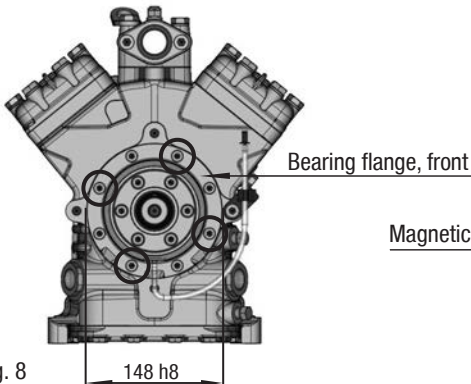

Fig. 8
- To absorb the magnetic field of the electromagnetic clutch, the front bearing flange has a snug fit $\varnothing 148 \text{ h8}$ (see Fig. 8).
- To connect the magnetic field, loosen the 4 cheese head screws M8 on the bearing flange (see Fig. 8).